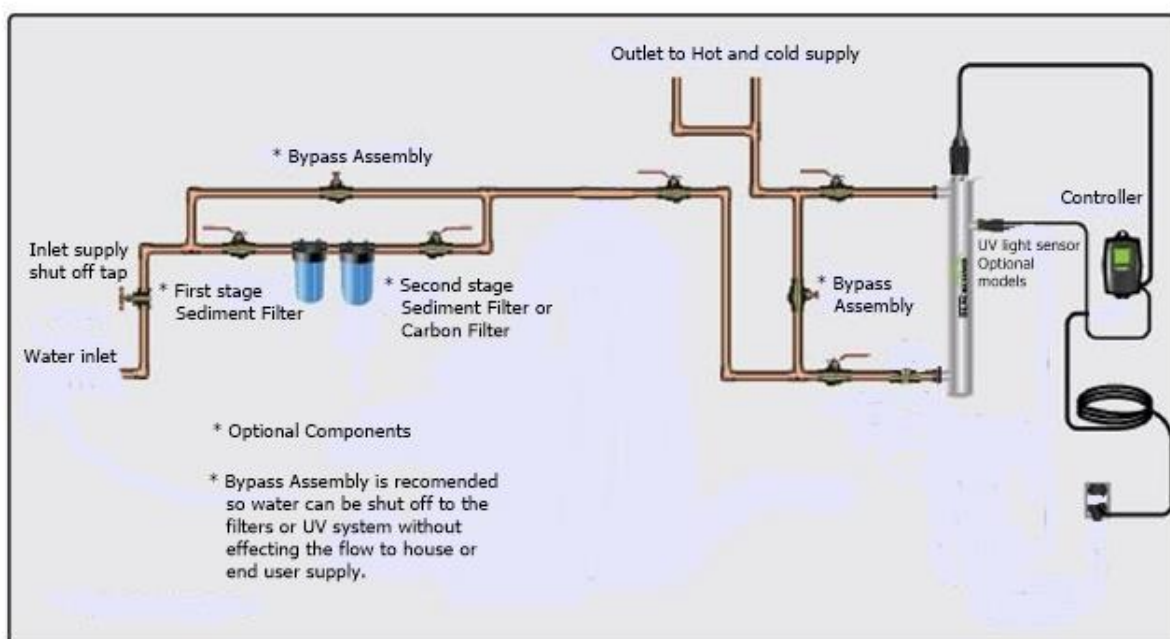

Figure 2. Recommended POE Installation
Step 1: The UV disinfection system should always be the last piece of treatment before the water branches off to the hot and cold water lines if the intent is for Point of Entry (POE) (see figure 2). If the intent for the UV system is for Point of Use (POU) the system should be the final step before the faucet.
Step 13: The controller can now be mounted on the wall. The controller should always be above or beside the reactor to ensure that no moisture can deposit on any of the connections (see Figure 2.). Always mount the controller vertically. For safety purposes the controller should be connected to a ground fault circuit interrupter (GFCI) (also known as a ground fault interrupter (GFI)).